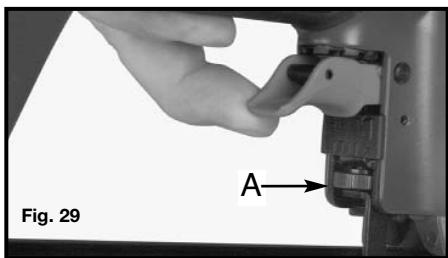

Fig. 29
The depth to which a nail is driven is controlled by the depth adjustment knob (A) Fig. 29. The depth of drive is factory adjusted to a nominal setting. Test fire a fastener and check depth. If a change is desired, rotate the adjustment knob (A) Fig. 29. The adjustment knob has detents every $\frac{1}{4}$ turn. Rotate the knob (A) Fig. 29 clockwise to increase the depth of drive, rotate the knob counterclockwise to decrease the depth of drive. Test fire another fastener and check depth. Repeat as necessary to achieve desired results. The amount of air pressure required will vary depending on the size of the fastener and the material being fastened. Experiment with the air pressure setting to determine the lowest setting that will consistently perform the job at hand. Air pressure in excess of that required can cause premature wear and/or damage to the tool.